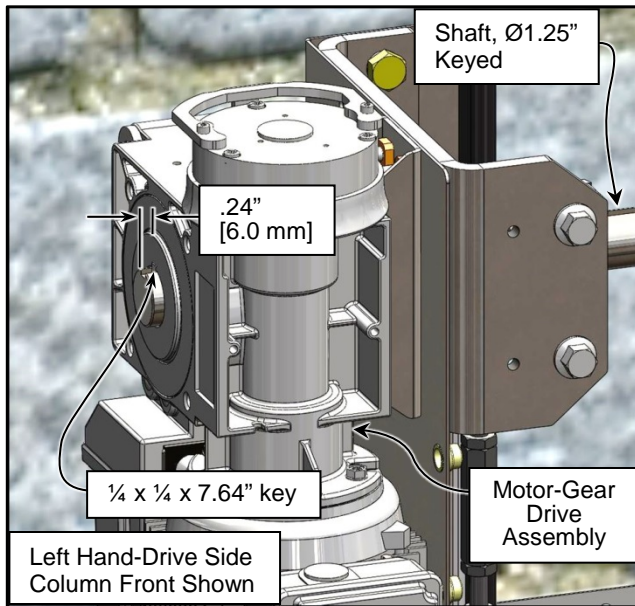

Figure 47
- Adjust the drive shaft and key as necessary (loosen the drive shaft bearing collar set screws and retighten again when correctly placed). After the motor-gear drive is installed the shaft should protrude from the motor face as shown. (See Figure 47)
- The  $\frac{1}{4}$ " square key should be approximately flush with the face of the motor as shown when fully installed. (See Figure 47)